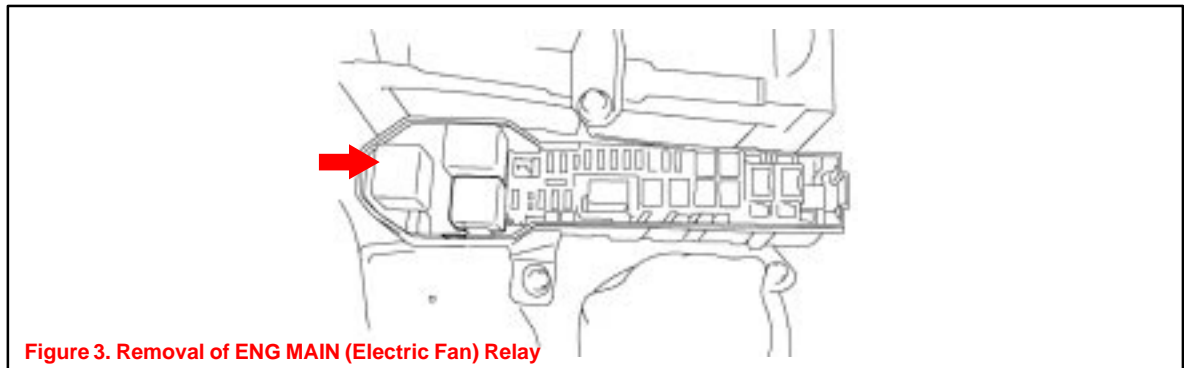

Figure 3. Removal of ENG MAIN (Electric Fan) Relay
1. Remove the **ENG MAIN (electric fan)** relay (see Figure 3).
5. Reinstall the **ENG MAIN (electric fan)** relay (see Figure 3).